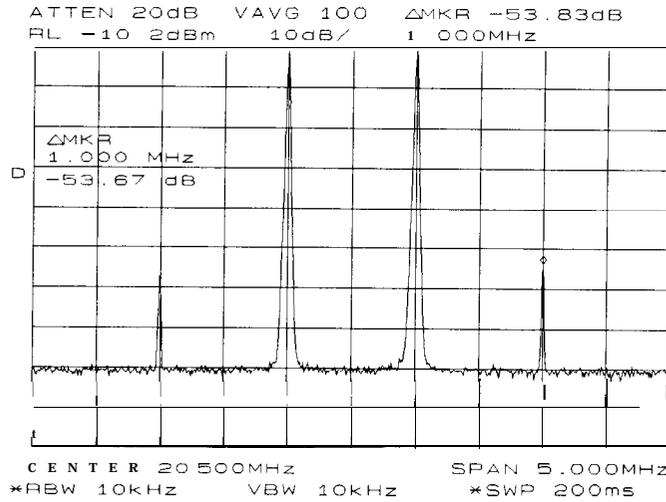

Figure 2-24. Intermodulation Distortion Measured in **dBc**
The spectrum analyzer automatically sets the attenuation so the maximum signal level is -30 dBm at the input mixer when the signal is at or below the reference level (see Example 1). You will hear the input attenuator click; notice that the value of the attenuator is now 20 dB (see Figure 2-24).
- c. Press **NEXT PK LEFT** or **NEXT PK RIGHT** to set the second marker on the peak of the distortion product that is beside the signal source (see Figure 2-24).